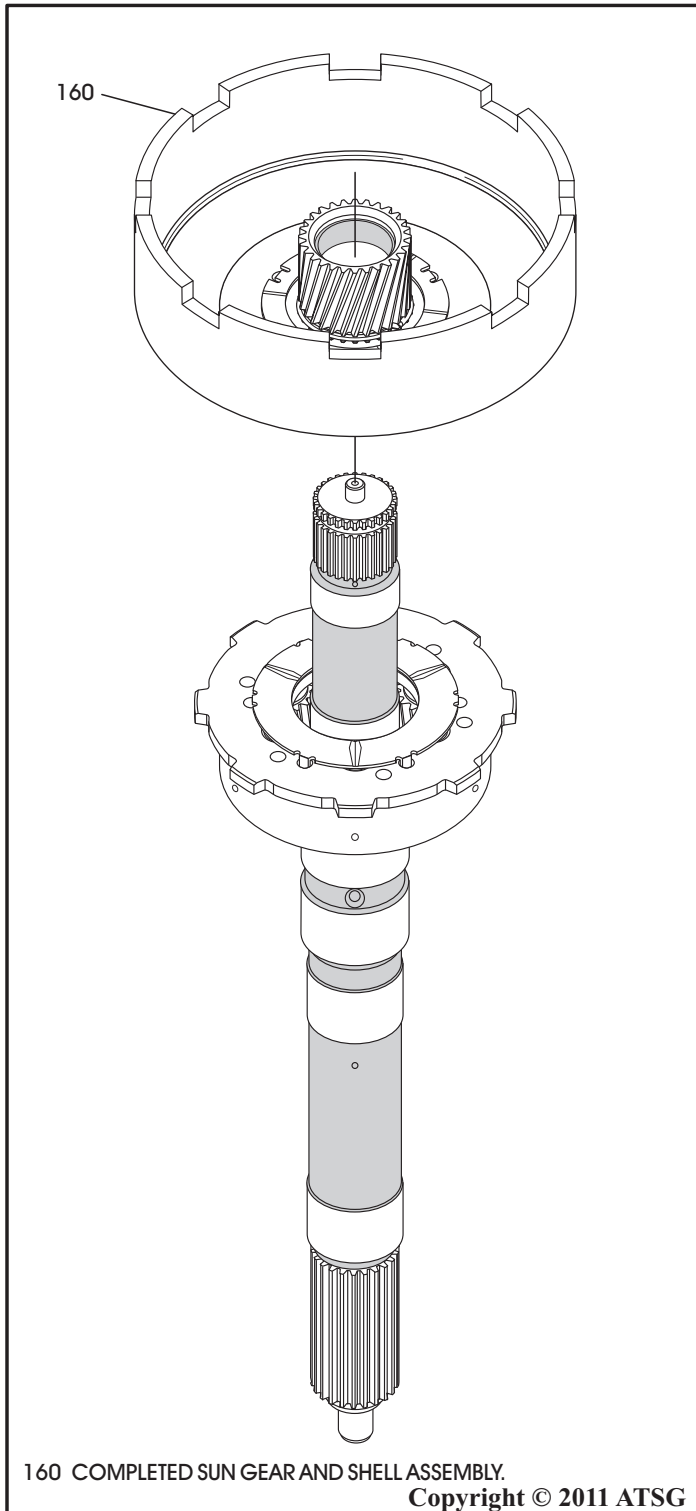

Figure 142
20. Install completed sun gear and shell assembly, as shown in Figure 142, by rotating into position.